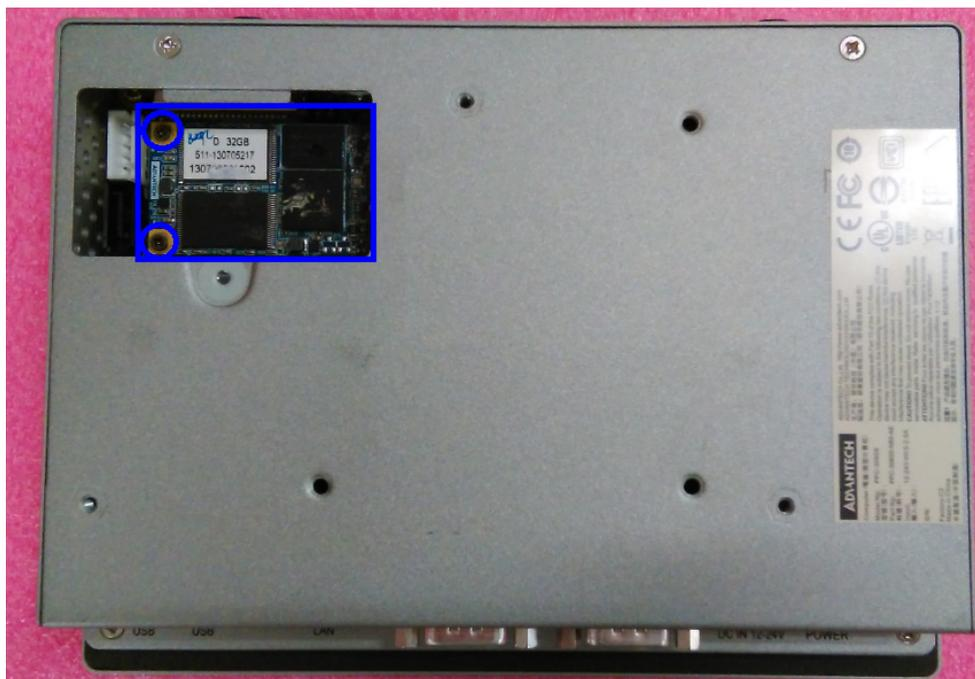

Figure 2.14 Installing the mSATA Module
2. Place the mSATA card into the socket, push the other end of the mSATA card down and secure the mSATA module with the two retention screws in the accessory box. (See Figure 2.14)